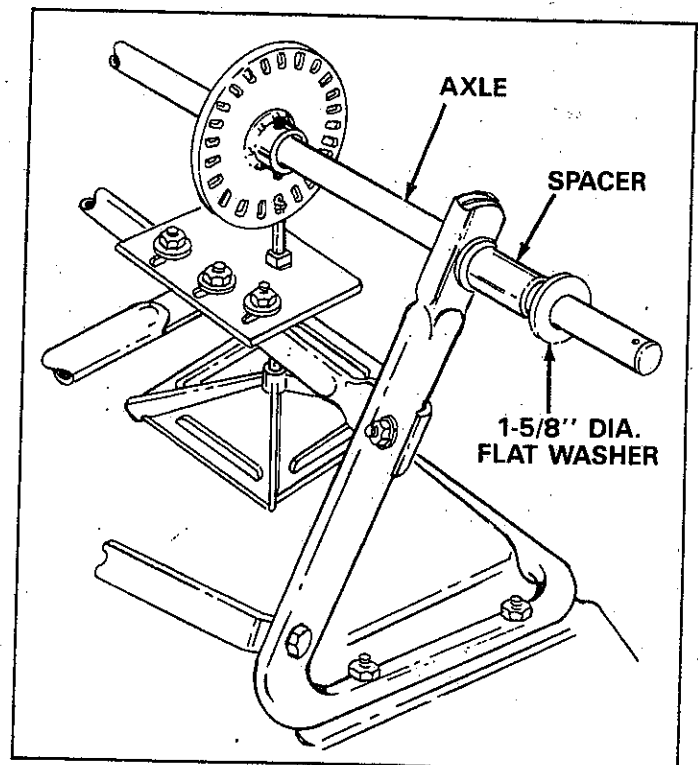

FIGURE 5
8. Assemble one spacer, and one 1-5/8" dia. flat washer to each side of axle. See figure 5.